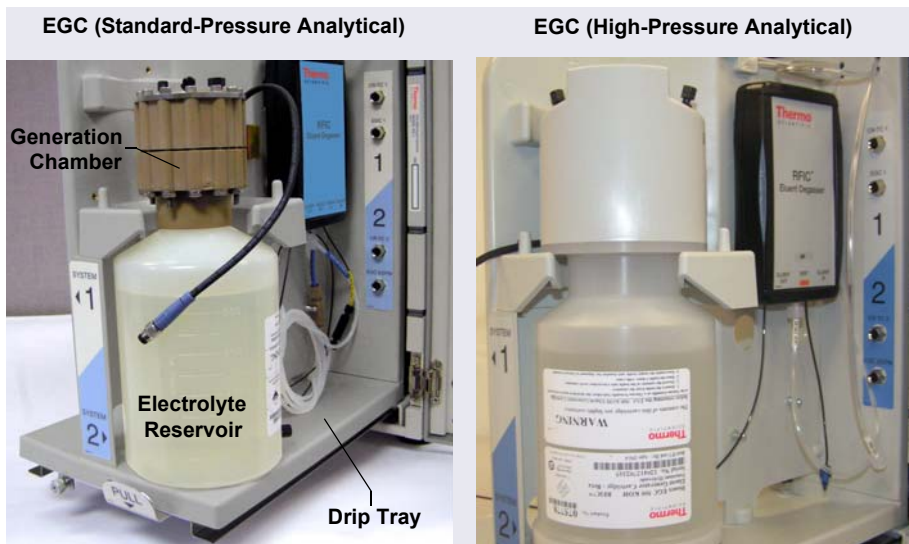

Figure 9-17. *Dionex EGC Service Position*
- Turn the Dionex EGC upside down and place it on the EG drip tray (see Figure 9-17). This is the “service position” for the cartridge.
- Hold the cartridge with the eluent generation chamber (see Figure 9-17) on top. Unscrew the eluent generation chamber from the electrolyte reservoir and pour the remaining electrolyte solution into an appropriate hazardous waste container.